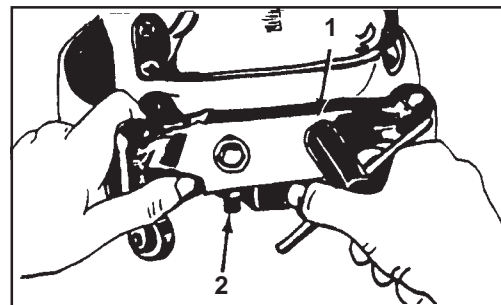

Figure 7
1. Using the special wrench, loosen the lock nut on each caster. See (1) figure 7.
2. Loosen the jam nut. See (2) figure 7.